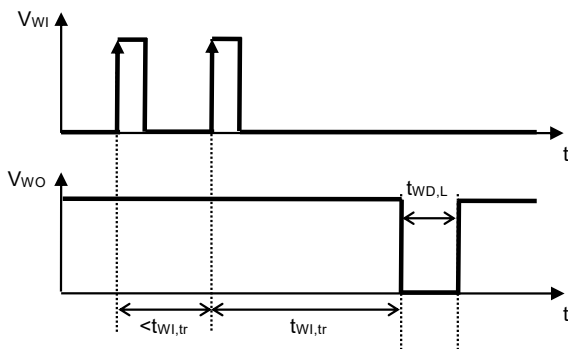

Figure 10 Watchdog Trigger Time
- *1. The time when the WO pin continues "L" after the watchdog timer detects a time-out or double-pulse (Refer to **Figure 10**). This value changes according to C_{DLY} .
- *2. The time from when the watchdog timer initiates the detection of a trigger signal to when a time-out is detected and the WO pin output changes to "L" (Refer to **Figure 10**). This value changes according to C_{DLY} .